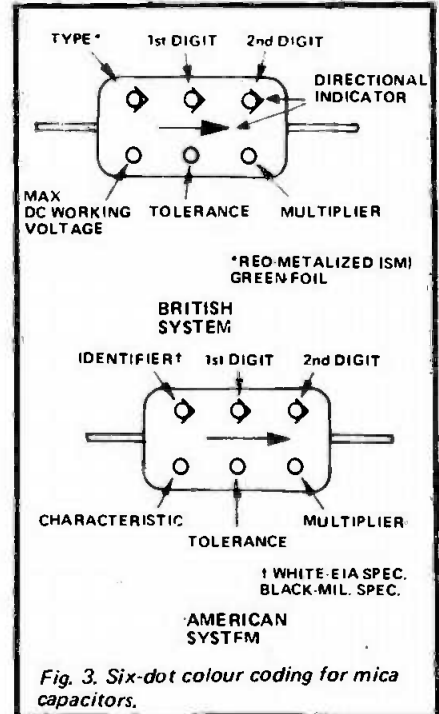

Fig. 3. Six-dot colour coding for mica capacitors.
*Fig. 3. This combined mini-computer, moving map and electronic display unit (Comed) for aircraft navigation uses a moulded plastics lens of complex aspheric design to give an undistorted, brilliant image of the map.*
A much larger moulded lens is used on the Ferranti Comed (combined map and electronic display) for aircraft, shown in Fig.3. In addition to alpha-numeric readouts of latitude, longitude, range, bearing and other navigational data, the unit has a screen on to which a moving map or radar picture can be projected from the rear. The lens is a bivet type, the flatter surface having a special form known as a Schmidt corrector plate. This complex aspheric surface is essential to ensure an undistorted image from any position, despite movements of the pilot's head, and a brilliant image even in strong daylight.
**Mica Capacitors:** The most common method of marking moulded mica capacitors is by an arrangement of coloured dots. The widely used British and American systems are illustrated in Figs 3 and 4. The value and tolerance may be found by referring to Table 1. The other characteristics may be obtained from Table 2.